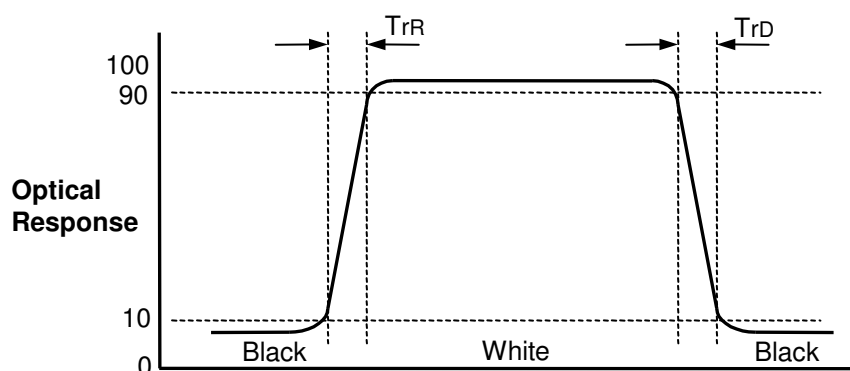

FIG. 3 Response Time
4. Response time is the time required for the display to transit from black to white (Decay time, Tr_D) and from white to black (Rise Time, Tr_R). For additional information see the FIG. 3.